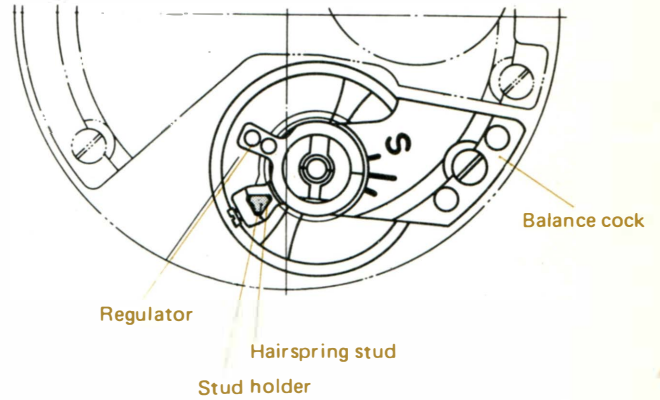

Fig. 1
- Citizen employs an out-of-beat correcting device as shown in Figs. 1 and 2 for correcting the out-of-beat of the balance.